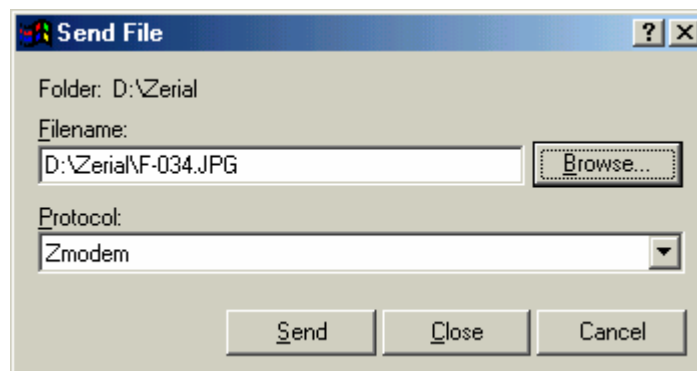

Figure 9. Send File Window
- After the browse window appears, locate the previously saved Connect Command script you wish to use. Figure 9.
- Click on **Open**. A connection, via Bluetooth link, will be established to the receiving terminal. See Figure 9.